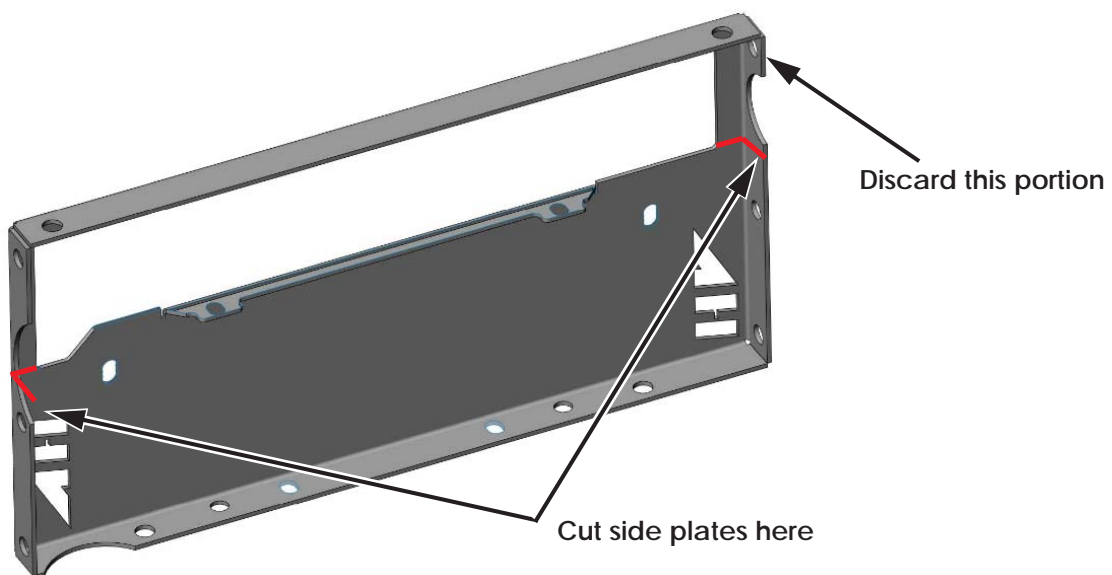

Figure 3: Cut both Side Plates
2. Cut both side plates and discard top portion as shown in Figure 3 below.